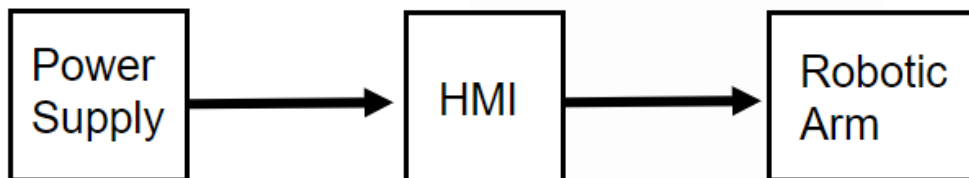

Figure 1 – Block diagram
The client has contacted your supervisor to report an offline motor fault on a Selective Compliance Assembly Robot Arm (SCARA), as shown in Figures 1, 2 and 3, which is being indicated on the human machine interface (HMI). The system is also due for planned maintenance.
- a programmable HMI (Fig 1) displays the current state of operation
- access to relevant information sources (digital or hard copy), including Figures 1 - 3